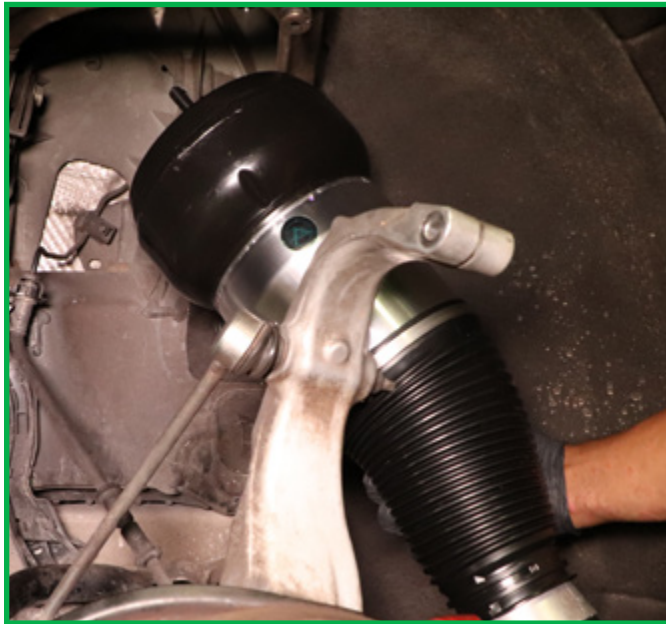

FIGURE 19
2. Install the Arnett strut in the vehicle. (Figure 19)